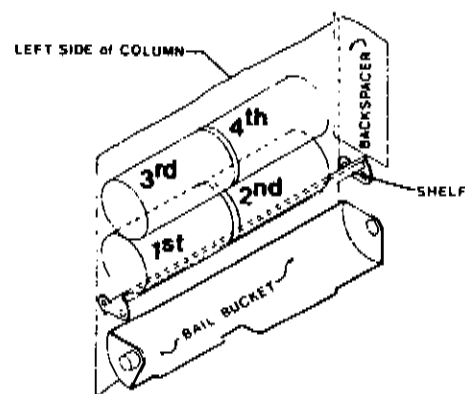

FIGURE 29
2. Load two products on blocking shelf. Place first product on shelf as far forward as possible, then place second product on shelf on shelf directly behind first product (See Figure 29).